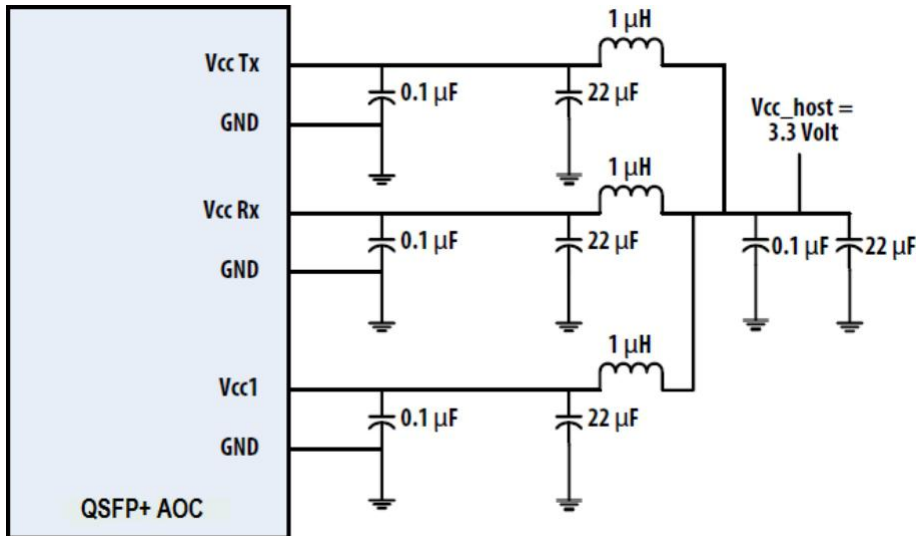

Figure 3. Recommended Power Supply Filter
2.VccRx, Vcc1 and VccTx are the receiving and transmission power suppliers and shall be applied concurrently. Recommended host board power supply filtering is shown in Figure 3 below. Vcc Rx, Vcc1 and Vcc Tx may be internally connected within the QSFP+ transceiver module in any combination. The connector pins are each rated for a maximum current of 500mA